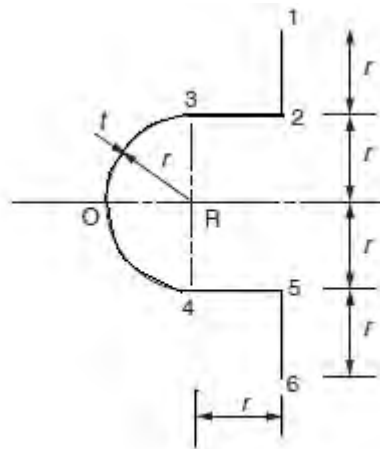

Figure 5:
5. The thin walled section shown in Figure 5 is constrained to twist about an axis through R, the centre of the semicircular wall 34. Calculate the maximum shear stress in the section per unit torque and the warping distribution per unit rate of twist. Also compare the value of warping displacement at the point 1 with that corresponding to the section being constrained to twist about an axis through the point O and state what effect this movement has on the maximum shear stress and the torsional stiffness of the section. [16]